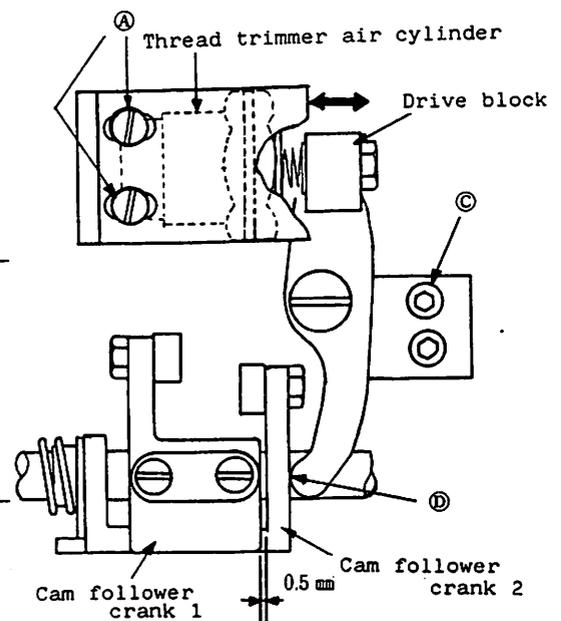

Fig. 11.7
- (1) Installation of trimmer air cylinder unit
- ① The unit is installed by screws (C) shown in Fig. 11.7.
der is actuated, a gap of 0.5mm is developed between the cam follower arms (1) and (2) as shown in Fig. 11.7 (under the standard installation).
To adjust the gap to 0.5mm, loosen screws (A) and move the air cylinder in the direction of arrow in Fig. 11.7.